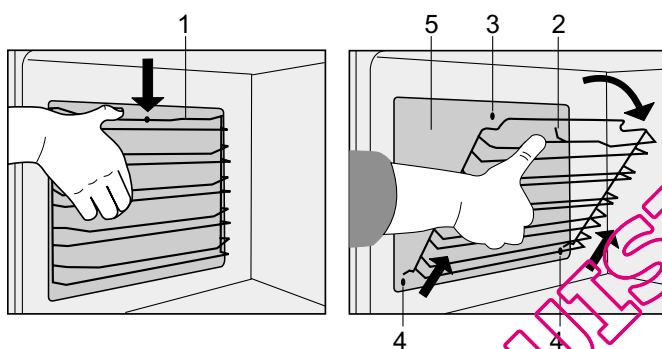

Fig. 20
- press down the top bar of guides 1 in order to release catch 2 from hole 3 (fig. 20),